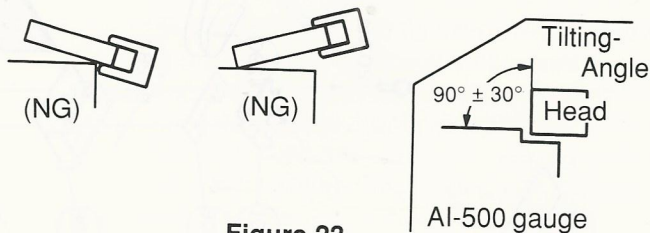

Figure 23
- (4) Adjust the height of the head as shown in Figures 23, 24 and 25.
- ① Place the height adjustment gauge (AI-500) on the head base, and adjust the height so that the check bar fits in the tape head guide smoothly.
- ② When the check bar touches the top (or bottom) of the tape guide, insert a spacer (t 0.1 mm or polislider washer t 0.13 mm). If necessary, remove the spacer.
**Note:** If you do not have a height gauge like described in (4)-①, run the tape at normal speed and adjust the height of the head and the tape head guide so that the tape does not curl.
- (5) After having assembled the complete mechanism, adjust the angle of the head with test tape MTT-113C. (Refer to chapter "Adjustment of the head angle".) After the adjustment, apply the screw lock and fix the screws.